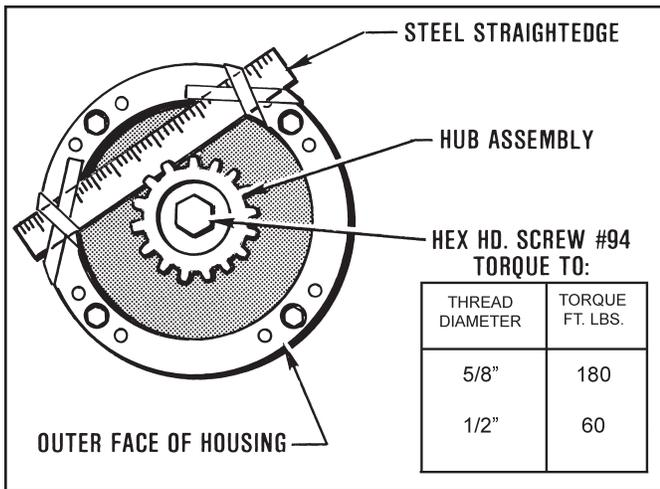

Figure 4 - Hub Alignment - Step 1
1. Tape a steel straightedge to the outer face of the housing as shown in Figure 4.
3. After the Hub has been properly positioned, tightened the Hex Hd Cap Screw (#94) to specified torque. (See Figure 4).